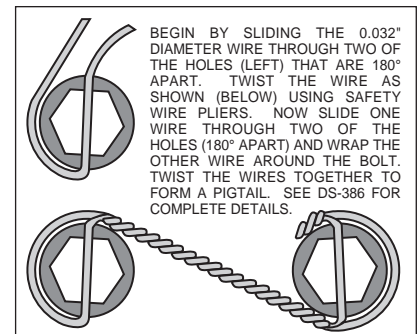

Figure 3. Safety Wire Diagram
- Position the caliper mounting bracket (1) on the spindle with the offset plate facing towards the center of the vehicle. **NOTE:** Be sure the heads of the caliper bracket (1) insert nuts are facing outward toward the wheel. Place one lock washer (2) on each of the three caliper bracket bolts (3). Mount bracket to the dust plate face of the spindle and align the three 3/8-16 holes in the spindle with the corresponding holes in the bracket (1). Apply red *Loctite*® 271 to all three bolt threads (3) and install. Torque bolts (3) to 35 ft-lb.
- Install wheel studs (4) into the hub (5). Torque to 77 ft-lb. **NOTE:** There are two lug patterns of five holes each in the hub (5 x 4.50 and 5 x 4.75). Make sure of the correct hole pattern for the wheel application before installing the studs into the hub.
- Pack the large inner bearing cone (6) with high temperature disc brake bearing grease (available from your local auto parts store) and install into the backside of the hub (5).
- Install the grease seal (7) into the backside of the hub (5).
- Pack the small outer bearing cone (13) with high temperature disc brake bearing grease and install into front side of the hub (5). Slide the hub assembly (5, 6, 7 and 13) onto the spindle. Secure using spindle washer (14), stock adjusting nut, and nut locking device. Adjust wheel bearing pre-load per Original Equipment Manufacturer (OEM) specifications.
- Install the o-ring (16) and the dust cap (15) into the hub (5). **NOTE:** O-ring (16) friction will not allow cap (15) to unscrew on its own.
- With the larger I.D. side of the rotor (8) facing away from the hat (9), bolt rotor (8) to hat (9) through the backside of the rotor using washers (10) and bolts (11). Torque bolts (11) to 85 **in-lb**. Safety wire bolts (11) using standard 0.032 inch diameter stainless steel safety wire as shown in Figure 3. Please refer to Wilwood's data sheet DS-386 (available at www.wilwood.com/pdf/ds386.pdf) for complete safety wire installation instructions.
- Slide the rotor/hat assembly over the studs (4) in the hub (5) taking care to align the small countersunk holes in the hat (9) with the small threaded holes in the hub (5). Install three flat head socket head screws (12) through the small holes in the hat (9) and torque to 85 **in-lb**.
•**NOTE:** Please reference the caution statement at the beginning of the assembly instructions. With the bleed screws pointing up, mount the caliper (17) to the caliper mounting bracket (1) using two bolts (20), two lock washers (19) and two flat washers (18). Finger tighten the bolts (20). **NOTE:** Please be sure with differential bore calipers that the "large" piston is on the "exit" side of the rotor. View the rotor (8) through the top of the caliper (17). The rotor (8) should be centered in the caliper's top opening (17). If not, loosen the two bolts (20) and adjust the caliper (17) position by using 0.030 inch thick shim washers (18). The shim washers (18) should be placed between the caliper (17) and the caliper mounting bracket (1). Finger tighten bolts (20) and recheck caliper (17) alignment. Add as many shim washers (18) as necessary to achieve the correct alignment. Always use the same amount of shims on both the top and bottom caliper mounting bolts (20). Loosen the two bolts (20) and apply red *Loctite*® 271 to bolt threads (20) and torque to 47 ft-lb. Safety wire the two bolts (20) using wire manufactured for the purpose of securing nuts and bolts. **HINT:** If more than two shim washers (18) are needed per bolt (20), a small drop of red *Loctite*® 271 between the shim washers will help hold them together during assembly.
- Remove the caliper bridge spacer and bolt, then install the disc brake pads (21), then reinstall the caliper bridge spacer and bolt.